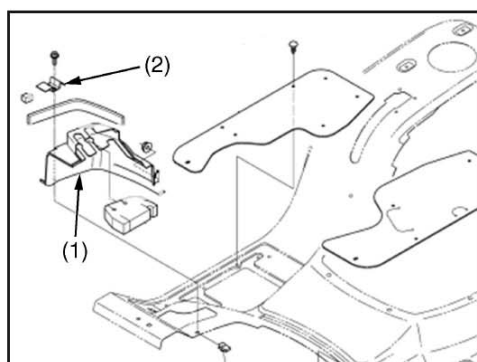

Fig. 2
3. Remove RH Valve Cover (K2581-57345) and, if equipped, Plate Cover (K2053-57940) as shown in Fig. 2.